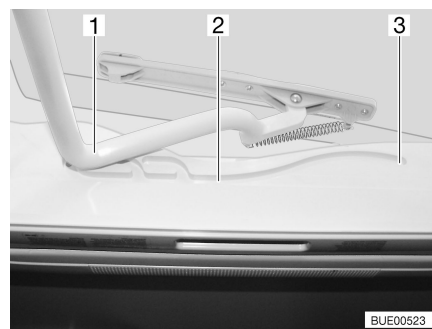

Fig. 26 Heki skylight, guide
- Pull the bar (Fig. 26,1) in the guides (Fig. 26,2) to the rearmost position (Fig. 26,3).
- Use both hands to push the bar (Fig. 26,1) slightly upwards.
- Pull the bar in the guides (Fig. 26,2) to the desired position.